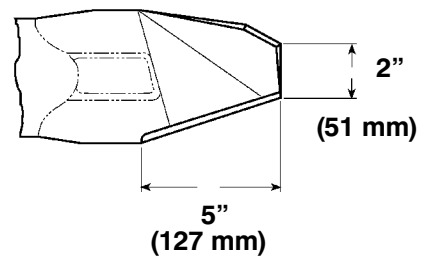

Figure 32
Note: Do not grind the blade more than 5 inch (127 mm) from the outside ends and no less than 2 inch (51 mm) from the trailing edge (Fig. 32).
2. If either end of the blade rotates downward, file that end (not the cutting edge or the end near the cutting edge; refer to Figure 32). The blade is properly balanced when neither end drops.